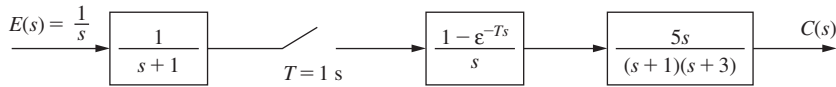

FIG. P4.3-5 System for Problem 4.3-5.
4.3-5. Find the system response at the sampling instants to a unit-step input for the system of Fig. P4.3-5.